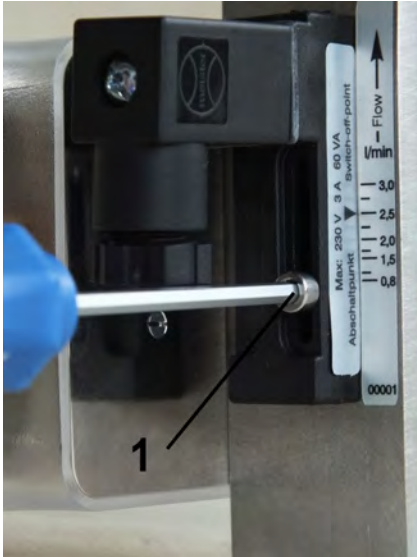

Fig. 34: Loosen set screw
1. ➤ Loosen the switch contact set screw(Fig. 34/1) using a hex screwdriver.
3. ➤ Re-tighten the switch contact set screw (Fig. 34/1) using a hex screwdriver. Observe the correct tightening torque..